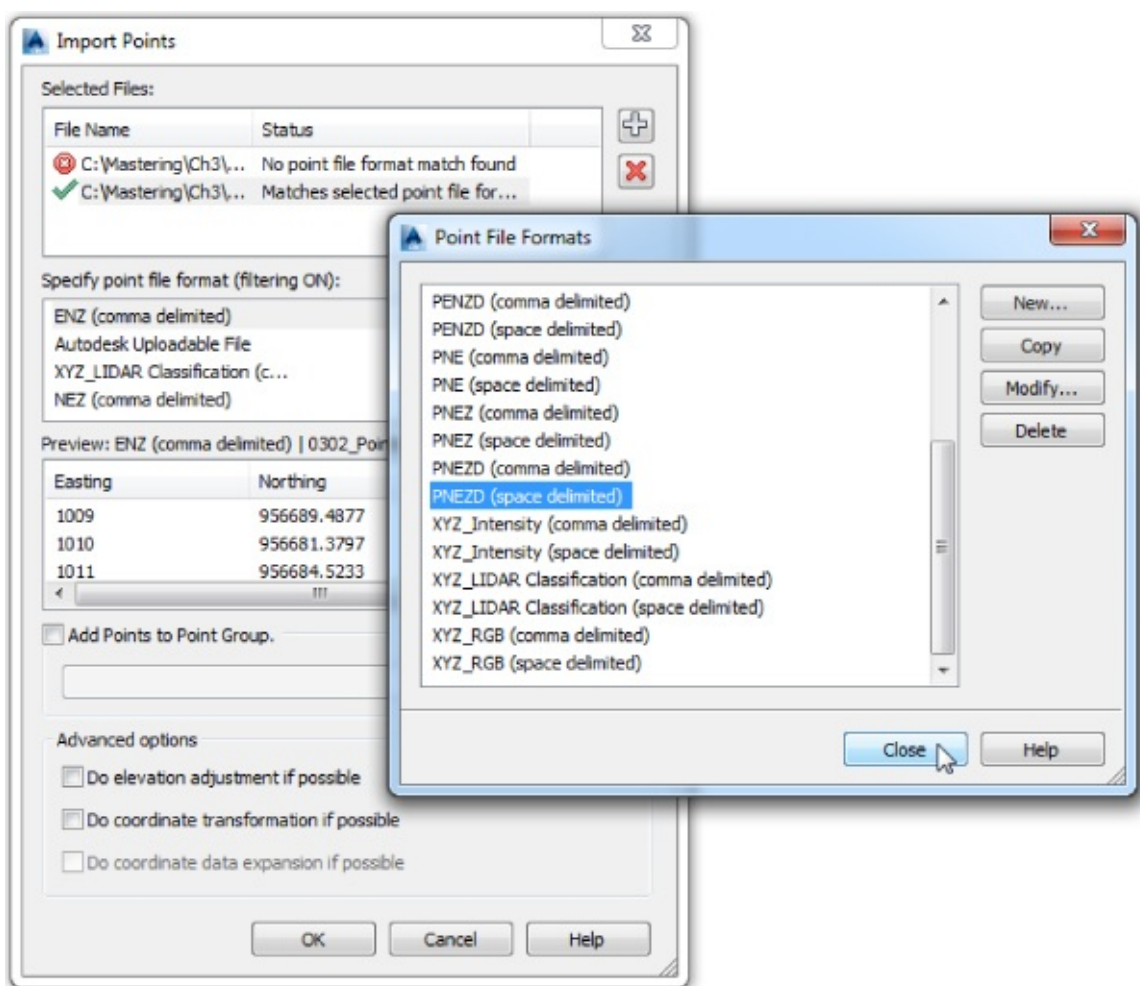

Figure 3.7 The Import Points and Point File Formats dialogs
**Certification Objective** One of the most common means of creating points in your drawing is to import an external text file (see Figure 3.7). The Import Points tool can be accessed either from the Create Points toolbar or from the Import Panel of the Insert tab on the ribbon.
When your file is listed in the top of the dialog, a green check mark indicates that Civil 3D can parse the information. Be careful, though, because Civil 3D does not know the difference between a northing and an easting or a point number and an elevation. You still need to select the correct file format. When the format of the imported data does not match any of the present formats, a red mark will be displayed, and you will not be able to proceed without defining a custom import format that matches the layout of the data, as shown in Figure 3.7.
As you can see in Figure 3.7 (shown previously), advanced options are available at the bottom of the Import Points dialog.